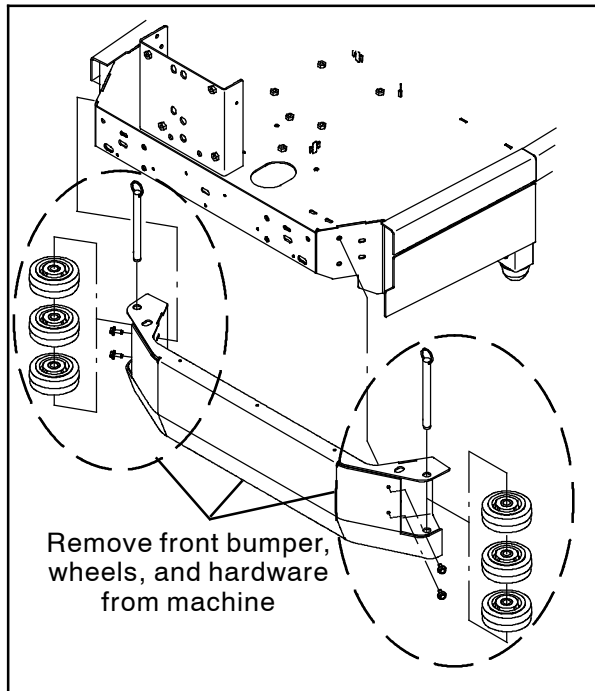

FIG. 1
2. Remove the front bumper assembly from the machine. (Fig. 1)
6. Remove the SEMS M6 hex screws securing the electrical enclosure cover to the electrical enclosure. Set the SEMS M6 hex screws aside. (Fig. 1)
7. Carefully remove the electrical enclosure cover from the electrical enclosure and position as shown. **Do Not** break or damage wires / wire connections when removing the electrical enclosure cover from the electrical enclosure. (Fig. 1 / Fig. 2)